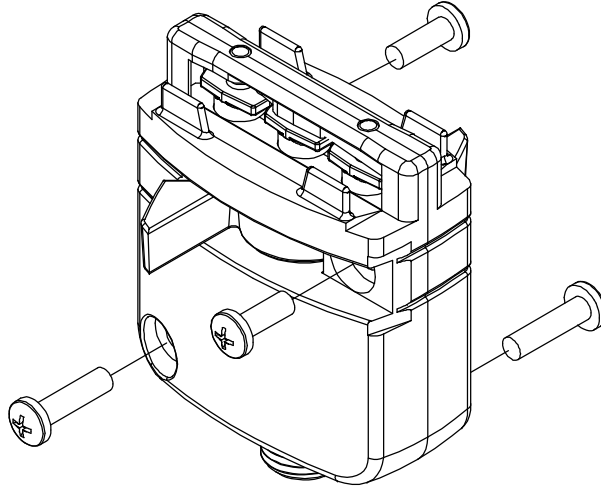

Figure 10
1. Remove the four screws from the connector body and separate the connector halves. See Figure 10.